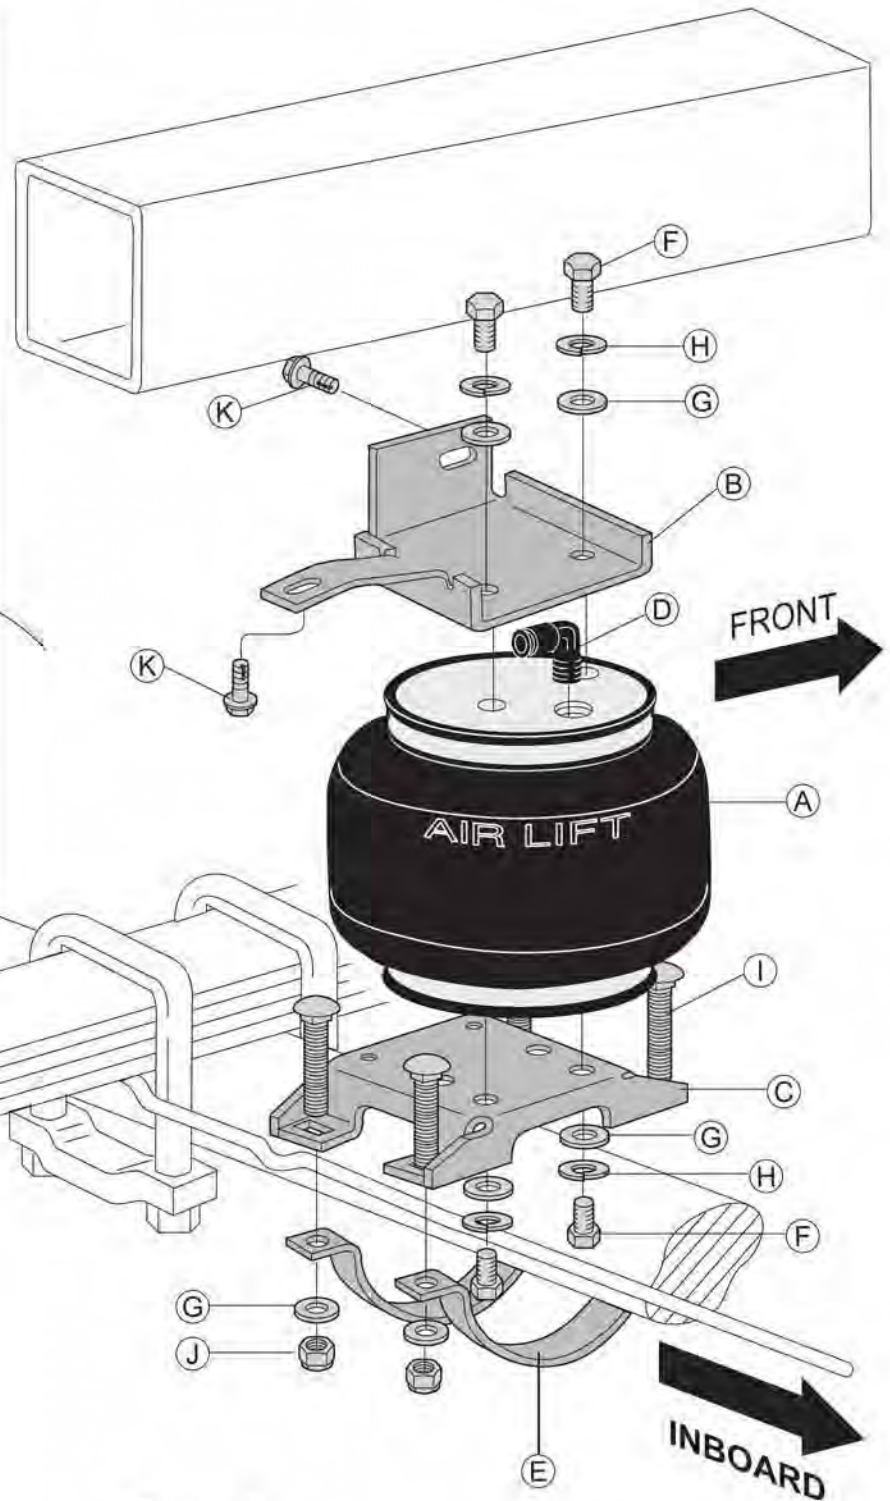
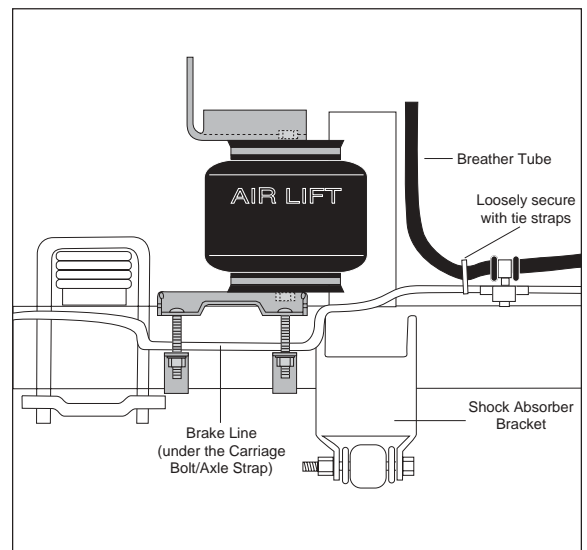

Figure 1
Figure 6
1. Install 90 degree air swivel fitting (D) to the top of the bellows. This fitting is precoated with sealant. Using an open-end wrench, tighten 1 and 1/2 turns (Figures 1 and 2).
2. Attach the upper bracket to the top plate (label end) of the bellows with two bolts (F), lock washers (H), and flat washers (G). Torque to 20 ft-lbs. Assemble both units (Figures 1 and 2) in this manner. There are left and right hand units (indicated by "LH" or "RH" stamped in the bracket).
*NOTE for Non-Disc Brake Models Only: The brake line should be between the carriage bolt and the axle housing (Figure 6).*
- On the Driver Side Only: Secure the breather tube away from the bellows using provided tie straps (BB). Refer to Figure 6.
- With the unit aligned vertically and horizontally, tighten the lower assembly to the axle housing. It is important to tighten the forward straps to the lower bracket first, and then the back. Tighten the lock nuts (J) to 16 ft-lbs.
- Using the holes in the upper bracket as a template, drill two  $\frac{5}{16}$ " holes into the frame. Insert and tighten the self tapping bolts (K) and torque to 15 ft-lbs. (Figures 1 and 7).